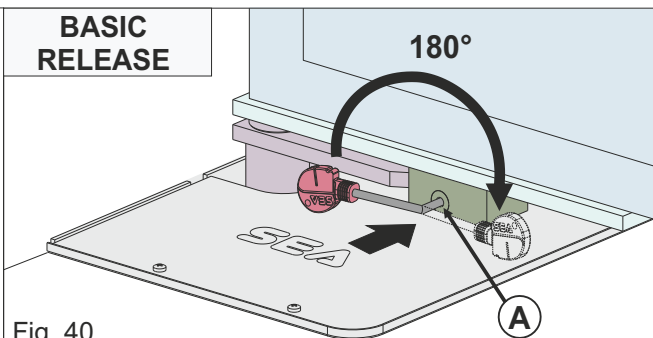

Fig. 40
- insert the supplied Allen key in the slot «A» and turn 180° towards the center of the gate (Fig. 40)